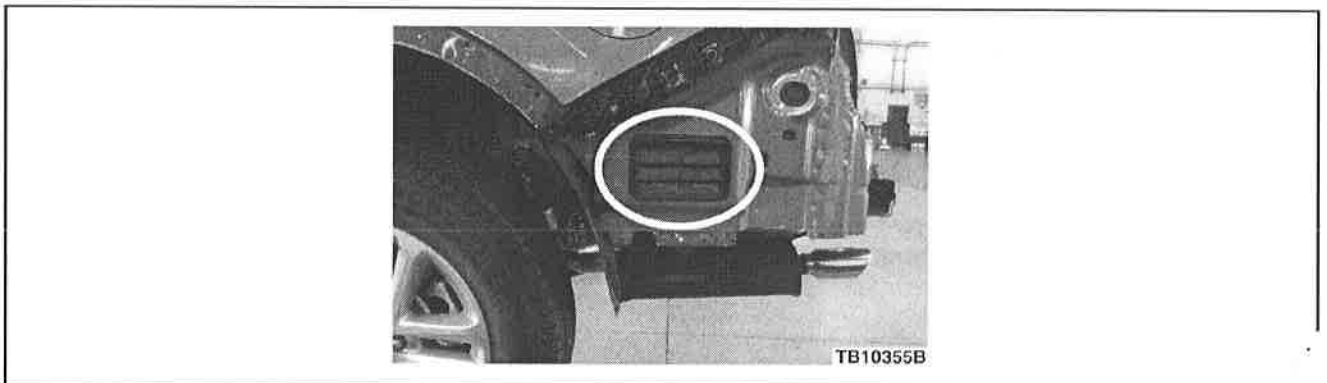

Figure 2 - Article 16-0166
- a. Replace the air extractor if it is warped or damaged or flaps do not lay flush to their sealing surface. (Figure 2)